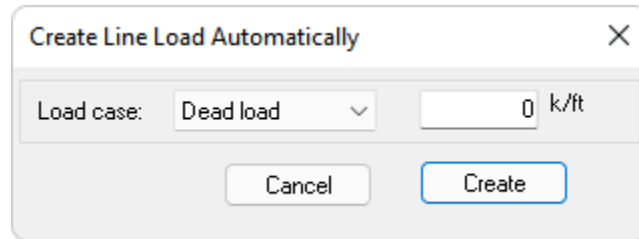

FIGURE 8-8
- Go to *Loading->General* and click on the **Line Load Wizard**  icon. This will open the *Create Line Load Automatically* dialog window shown in **FIGURE 8-8**.